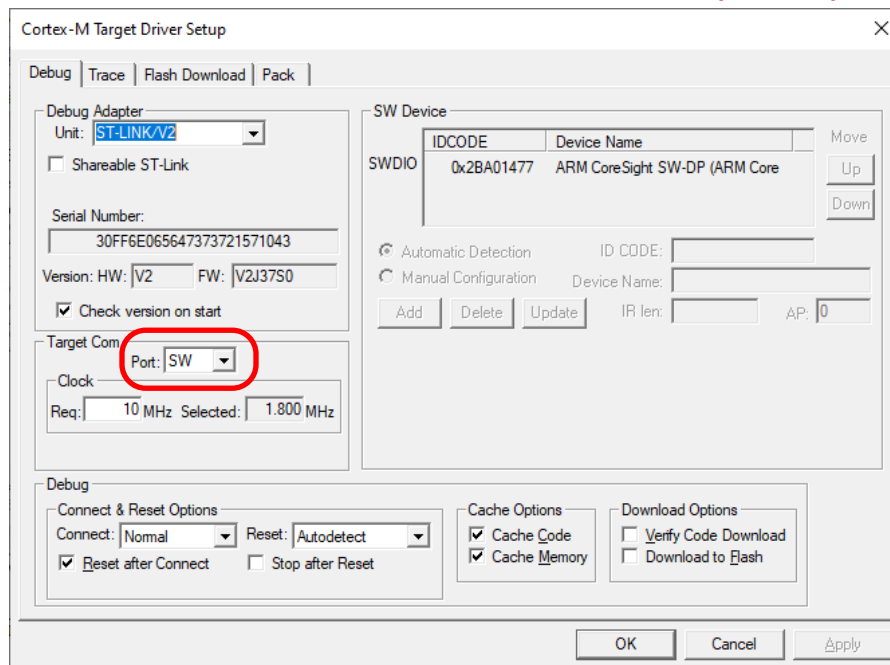

Figure 7. Single-Wire (SW) Debug Adapter port selected.
- Click on **Settings** next to **ST-Link Debugger** to produce the Cortex-M Target Driver Setup Window (Figure 7), and select **Port SW** (Single-Wire debug) under **Target Com**.